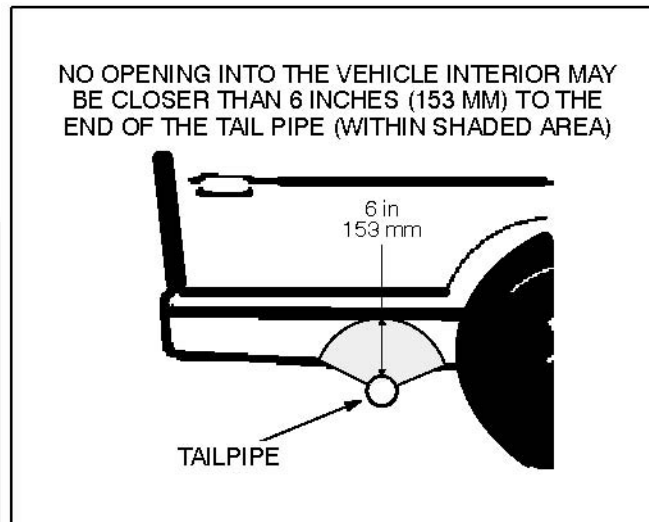
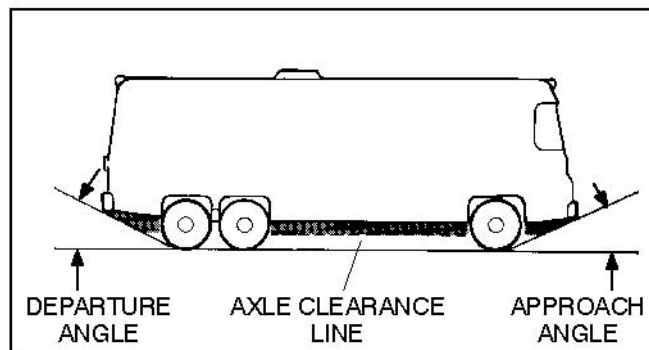

FIGURE 9. MINIMUM DISTANCES TO OPENINGS
FIGURE 10. VEHICLE CLEARANCES
Below-floor mounting kits are available from Onan. Carefully follow the instructions in the kit. Reinforce generator set with steel to resist the dynamic weight. Do not mount the genset within the approach or departure angles of the vehicle or below the axle line (Figure 10).
WARNING: EXHAUST GAS IS DEADLY! To keep exhaust gases from entering the vehicle do not terminate the exhaust tailpipe underneath the vehicle or closer than specified to openings into the vehicle (Figure 9) or route it such that it is likely to be damaged (Figure 10). Use approved materials and parts only.
8. Do not terminate the tail pipe such that it is closer than 6 inches (153 mm) to any opening into the vehicle interior (door, window, vent). See Figure 9.
10. Route the tail pipe such that it is not likely to be struck when the vehicle is moving. Keep it out of the approach and departure angles of the vehicle and above the axle clearance line (Figure 10).